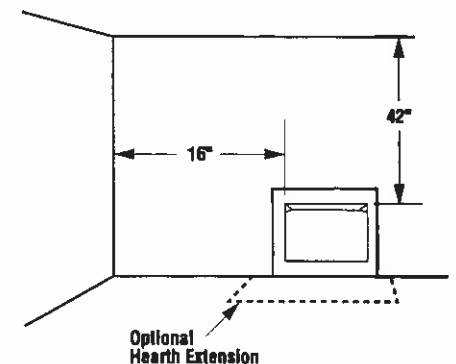

Figure 2
Ensure the minimum clearances shown in *Figures 2 through 6* are maintained. Left and right clearances are determined when facing the front of the firebox.
Step 1. Sidewall clearances: The sides of the firebox opening must be at least 16" from any combustible wall (*Figure 2*).
Step 2. Ceiling clearance: The ceiling must be at least 42" from the top of the firebox opening (*Figure 2*).